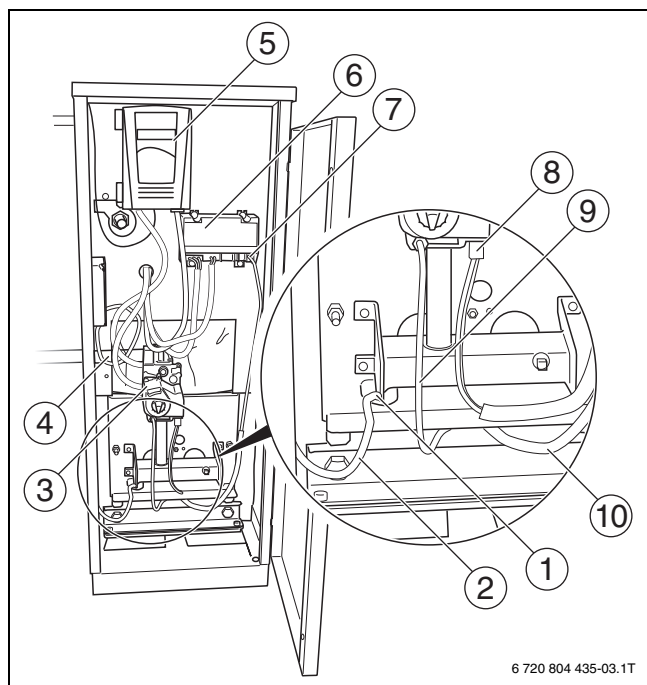

Fig. 3 Front view
► Wait five (5) minutes until all gas residues have dissipated. Check whether there is any smell of gas, including at floor level. If you can smell gas, close the gas shut-off and disconnect the heating system from the power supply and contact the customer service technician or the gas company.
- Remove igniter cable from ignition module (→ figure 3, [6]).
- Disconnect cable connector from bottom of gas valve (→ figure 3, [3]).
- Label cables to the flame roll-out switch, then remove cable (→ figure 3, [2]).